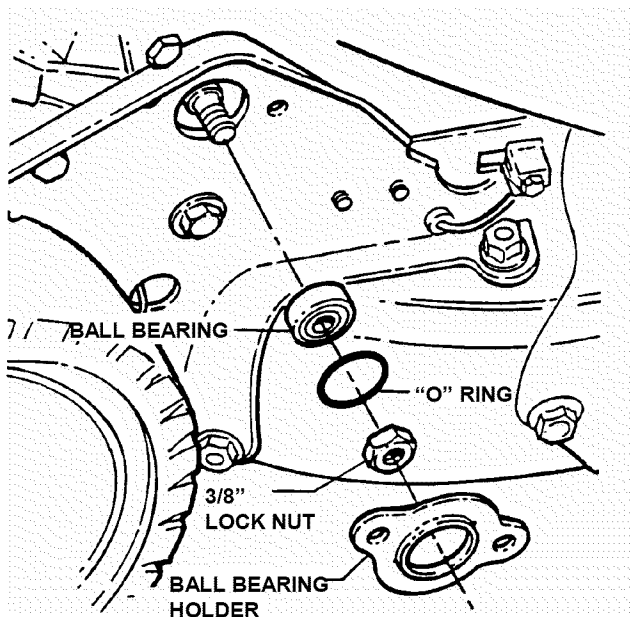

FIGURE 4.14
2. Remove the 3/8" hex lock nut which is located on the outside of the right wheel bracket. See Figure 4.14.